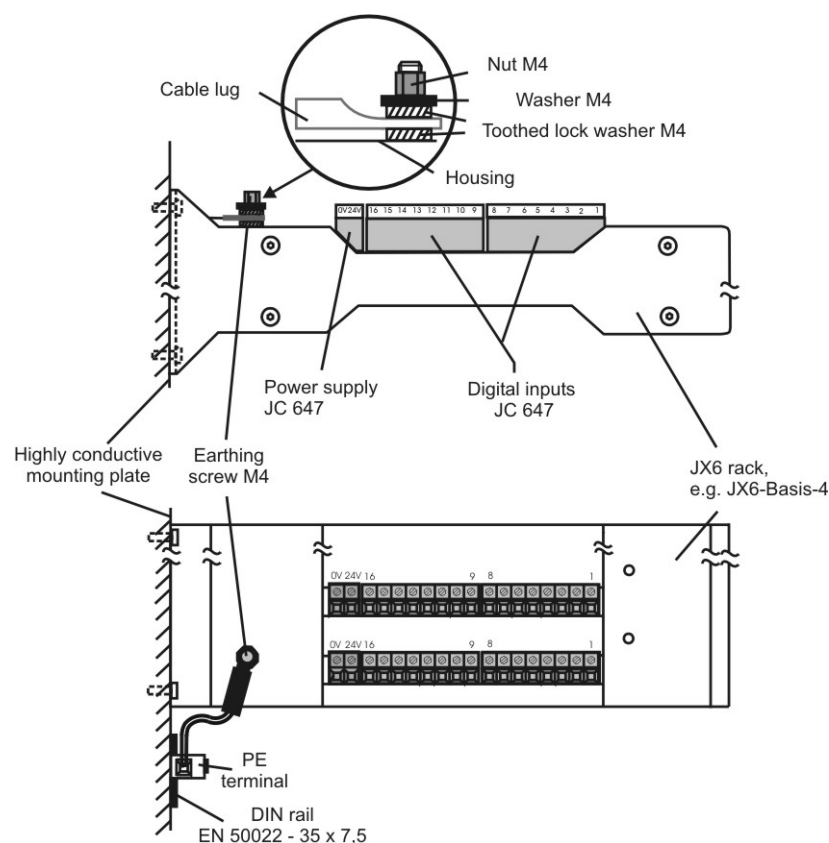

Fig. 1: Earthing, JX6 housing
- An earth-terminal screw with a M4 thread is located on the top face of the JX6 housing. This earthing screw shall electrically be connected to a PE terminal in the electric cabinet by means of a PE conductor (conductor area 1.5 mm², colour green-yellow) (refer to Fig. 1).